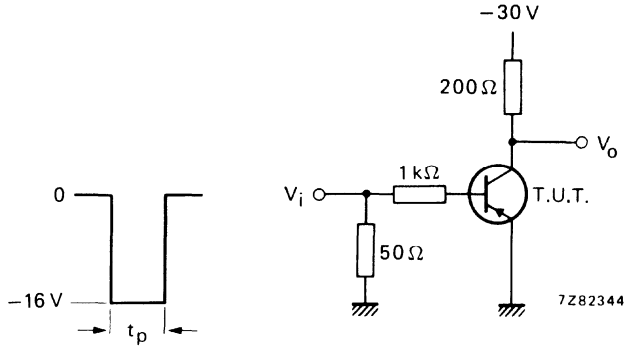
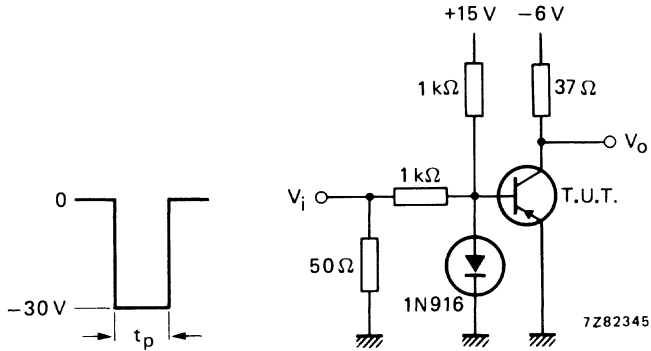

Fig. 3 Turn-on switching time test circuit.
Fig. 4 Turn-off switching time test circuit.
- $-I_C = 150 \text{ mA}; -I_B = 15 \text{ mA};$ (see Fig. 3)
- to cut-off with $+I_{BM} = 15 \text{ mA}$ (see Fig. 4)
Fig. 3 and Fig. 4